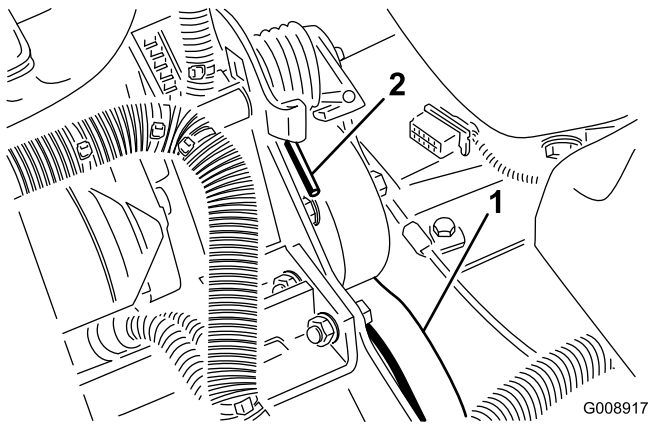

Figure 70
2. Push down and forward on the spring end (Figure 70) to unhook it from the bracket and release tension on the spring.